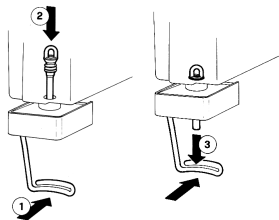

figure 5
- 2 - **Pinch tube faucet:** push the dispensing handle (1) and insert the pinch tube into its vertical seat in the bowl bottom(2). Lightly pull the pinch tube end downwards til it is
well arranged (3) (see figure 5).